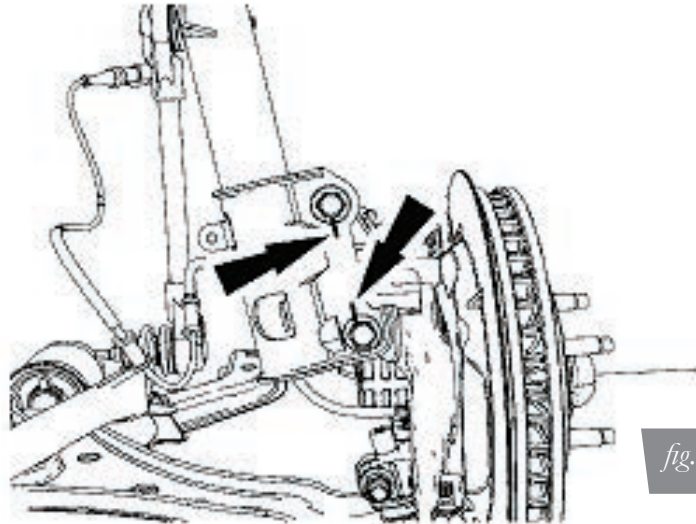

fig. 4
4. Support the hub assembly, unthread the spindle nuts and remove spindle bolts from the strut assembly (fig. 4).